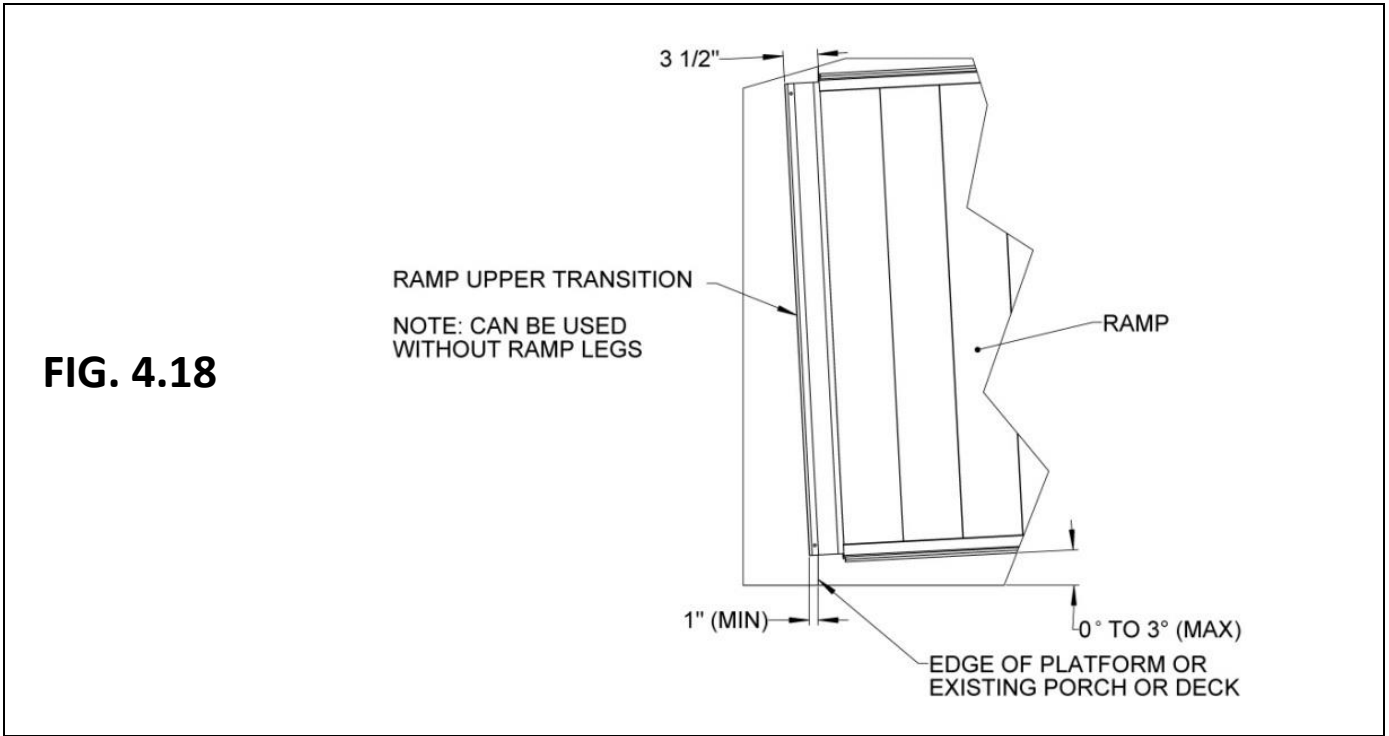

FIG. 4.18
- 4.8.1. Angles up to approximately 3 degrees can be accommodated using the Ramp Upper Transition if it overlaps the surface of the platform, porch, or deck by at least 1" (FIG. 4.18).